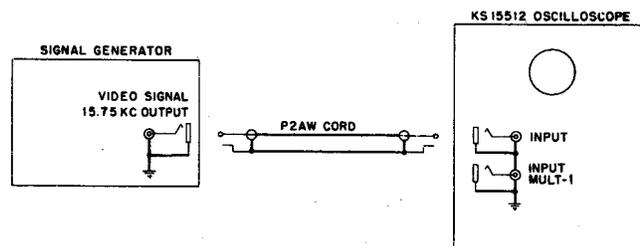
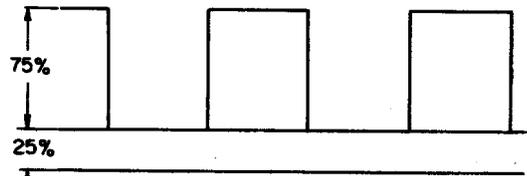

Fig. 5 - Equipment Arrangement for the Input Attenuator Adjustment
Fig. 6 - Modulated Video Test Signal
- (2) Set the oscilloscope INPUT switch to 1:1, V GAIN control to minimum, BANDWIDTH switch to 4 MC - NORMAL, SYNC SELECTOR switch to (-), SWEEP FREQUENCY switch to HI, BLANKING switch ON and H GAIN control for a convenient horizontal deflection.
- (3) Connect the 61B signal generator and oscilloscope with a P2AW (unbalanced) cord as illustrated in Fig. 5.
- (1) Set the 61B signal generator as in Paragraph 3.09(1) except the MOD-UNMOD switch should be on MOD.
- (2) Set the oscilloscope as in Paragraph 3.09(2) except the SWEEP FREQUENCY switch should be on 10.
- (3) Connect the signal generator and oscilloscope as illustrated in Fig. 5.
- (4) Set the V GAIN control for a convenient vertical deflection and synchronize the pattern with the SYNC and FINE FREQUENCY controls.
- (5) Adjust the LOW FREQ ADJ control for minimum "tilt" on the square wave display illustrated in Fig. 6.